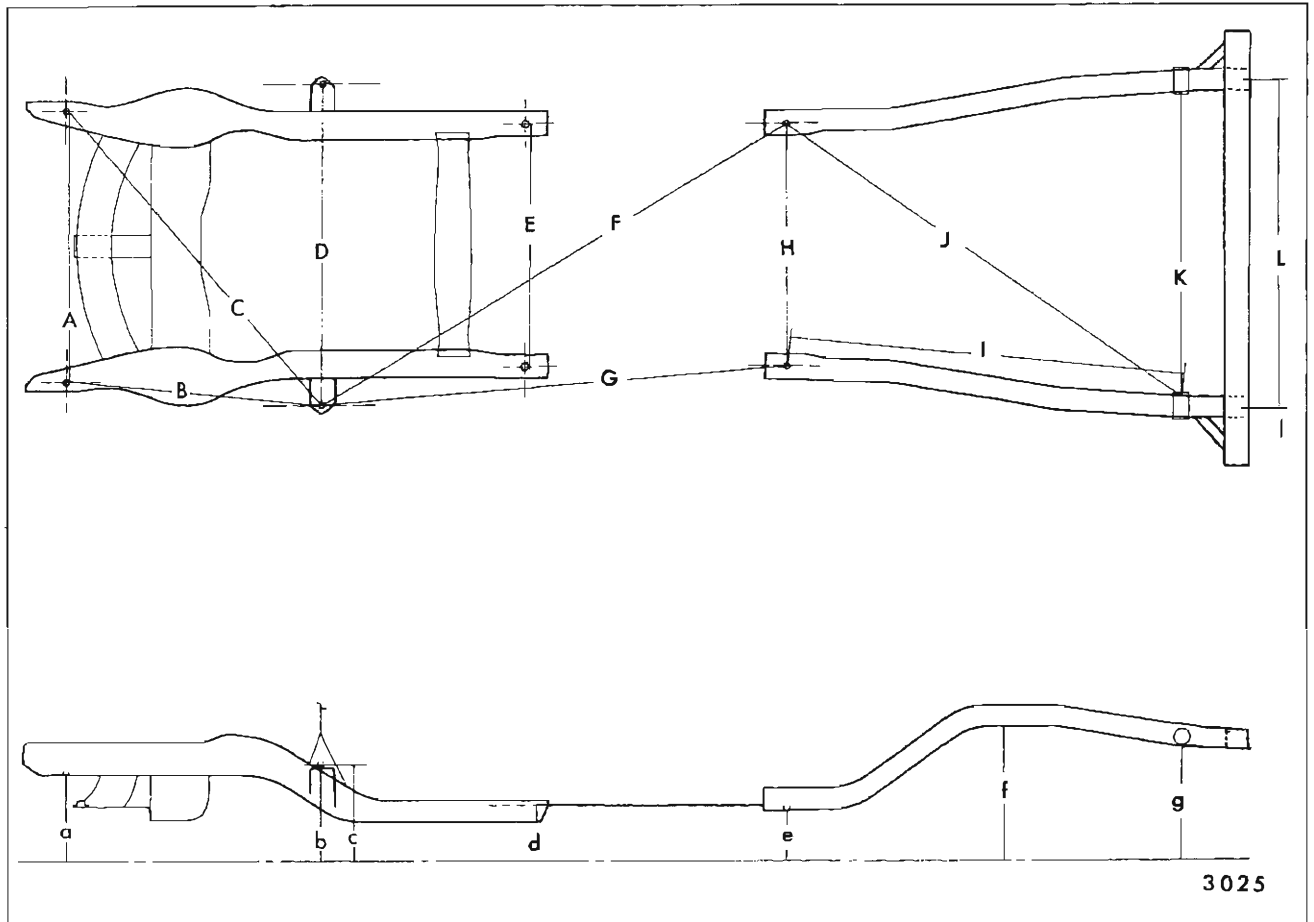

Fig. 3-6—Horizontal & Vertical Checking Dimensions (Chevy Nova & Acadian "X" Bodies)
**Underbody Alignment Reference Point Dimensions—(Fig. 3-6 for Chevy Nova and Acadian "X" Bodies)**
**Horizontal Dimensions—Chevy Nova & Acadian "X" Bodies (Fig. 3-6)**
Chevy Nova & Acadian "X" Bodies (Fig. 3-6)**